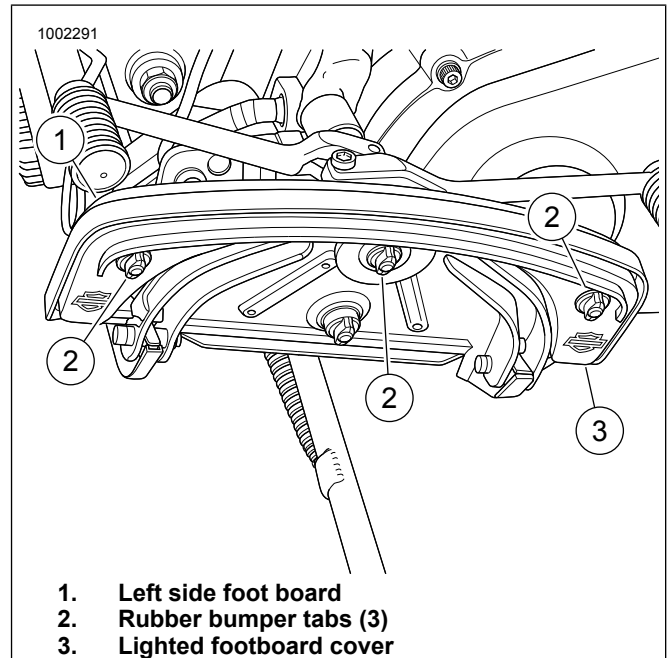

Figure 1. Lighted Footboard Cover Installation
1. See Figure 1. Starting with the left side footboard (1), tilt footboard to the upright position for access to bottom of footboard.
2. Using a window cleaning solution, spray the three rubber bumper tabs (2) protruding through the bottom of the footboard.
3. Starting with the center hole, apply upward pressure to the light housing (3) and using pliers, pull down on rubber bumper tab until light is seated onto tab. Repeat for left and right side tabs.